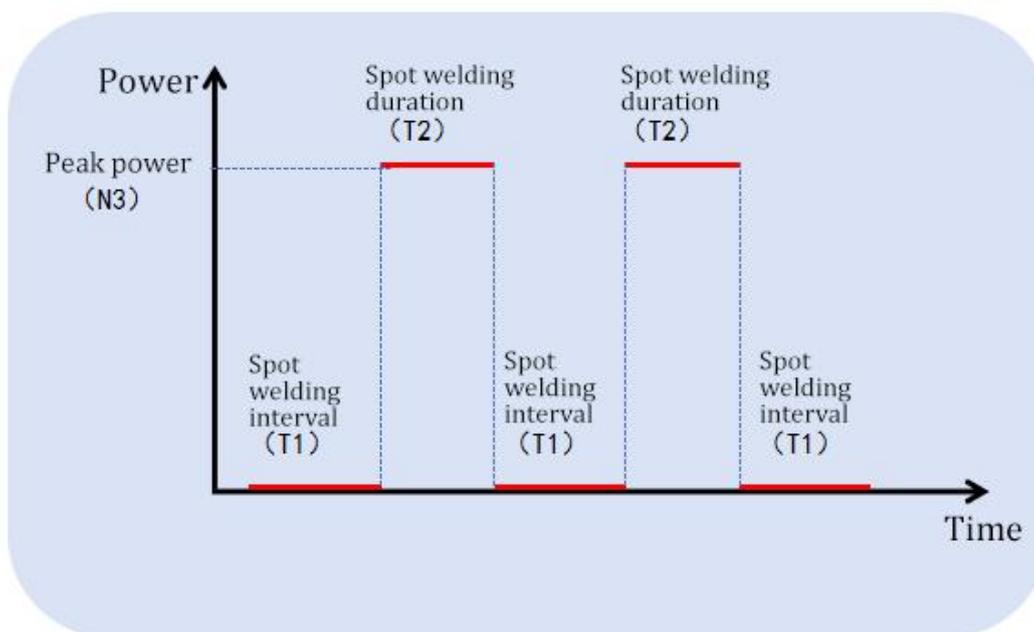

Figure 4.9 Spot welding power-time relationship
⑧[Temperature Threshold]: Maximum 80°C, when the value is set to 0, the temperature alarm will not be detected.
⑨[Alarm Level-High/Low]: set to low level when not in use, according to the external product setting.
⑩[Spot Welding Type-Intermittent/Fish Scale/Single Shot]: [Fish Scale] is suitable for fish scale pattern welding, [Intermittent] is suitable for segmental welding. Single shot] is suitable for continuous welding for a short period of time. When selecting [Single Shot], set the [Spot Welding Duration] to stop the light when the welding is completed, and you need to pull the trigger again to light up again.
⑪[Spot Duration] [Spot Interval]: As shown in Fig. 4.9, [T1] does not emit light and [T2] emits light.